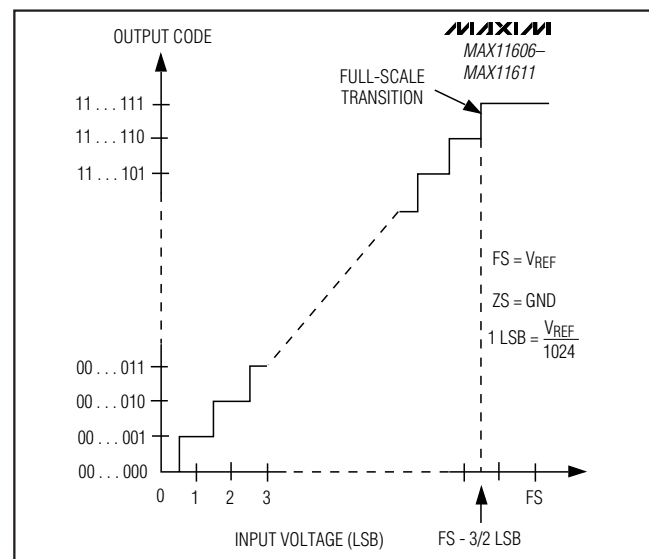
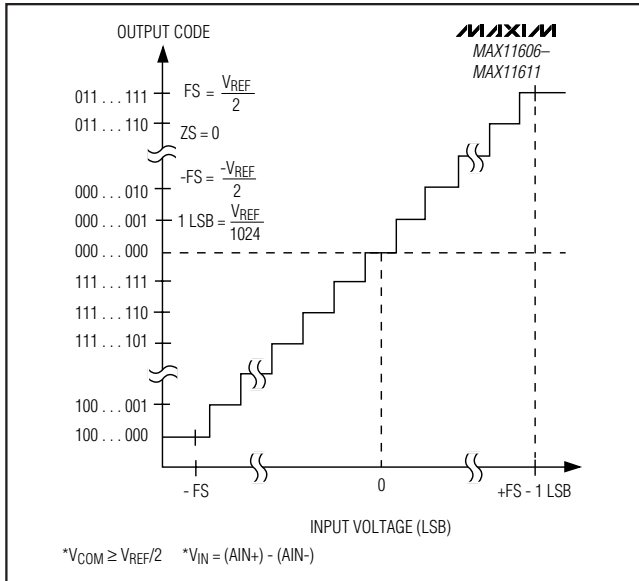

Figure 12. Unipolar Transfer Function
Figure 13. Bipolar Transfer Function
Output data coding for the MAX11606-MAX11611 is binary in unipolar mode and two's complement in bipolar mode with 1LSB = (VREF/2N) where N is the number of bits (10). Code transitions occur halfway between successive-integer LSB values. Figure 12 and Figure 13 show the input/output (I/O) transfer functions for unipolar and bipolar operations, respectively.